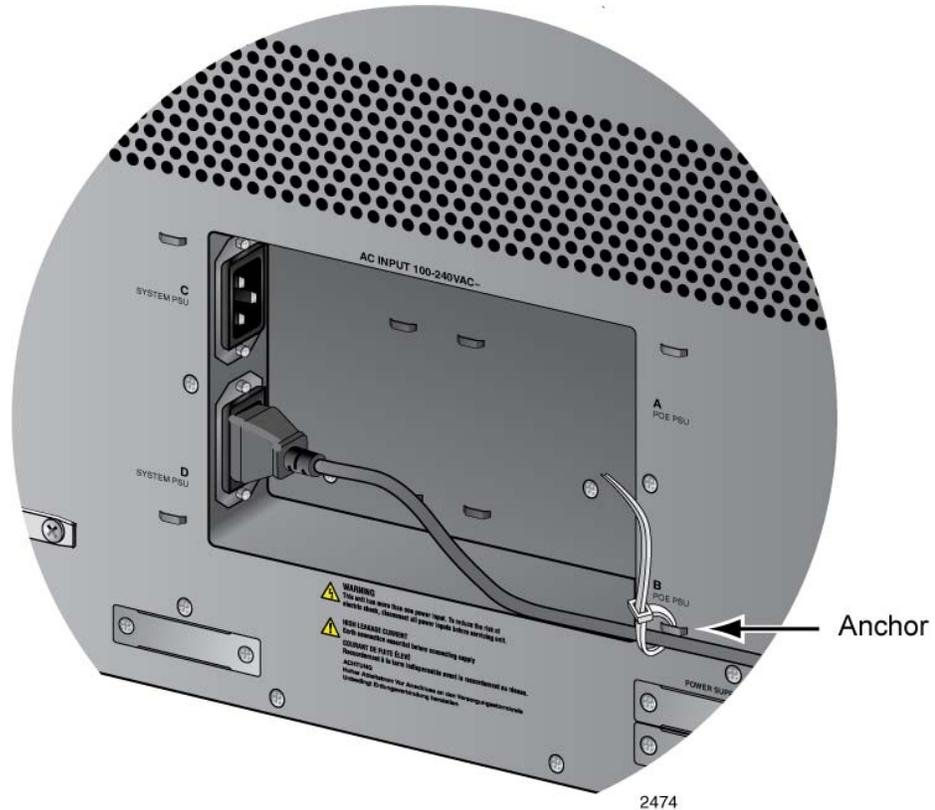

Figure 107. Securing the Power Cord for the AT-SBxPWRSYS1 or AT-SBxPWRSYS2 AC Power Supply to an Anchor
3. Use the twist tie included with the power supply to secure the cord to an anchor on the chassis to protect it from being accidentally pulled out, as shown in Figure 107 on page 178.